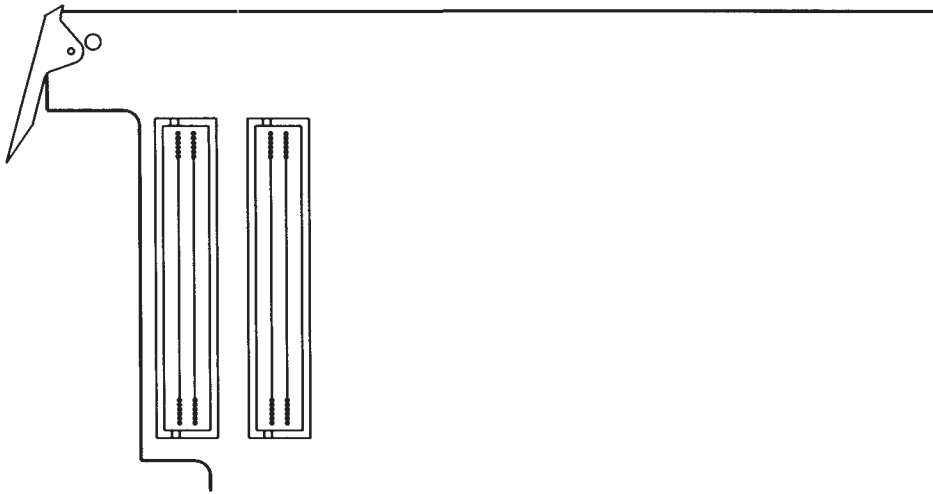

Figure 4-1. Floating-Point Accelerator Bus Connectors
6. Locate the FPA Bus connectors on the Accelerator as shown in Figure 4-1.